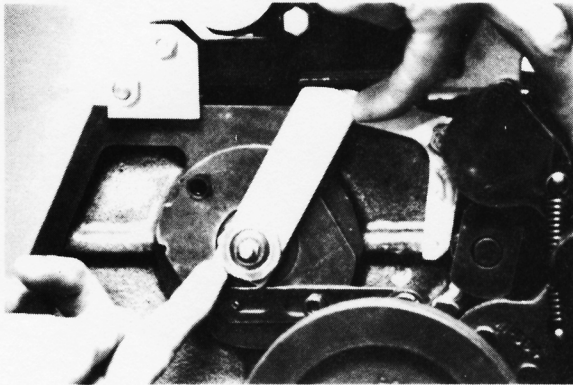

Fig. 3
8. Install lift lever and hold it tight so tip of lever touches Kompac bracket. (Fig. 3)